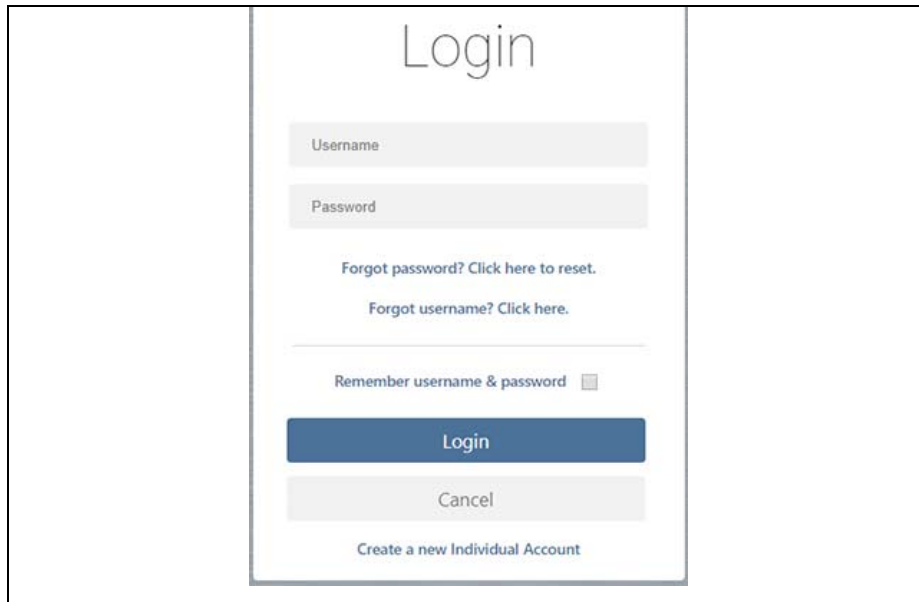

Figure 12-5
3. Log in using your **Username** and **Password** (Figure 12-5).